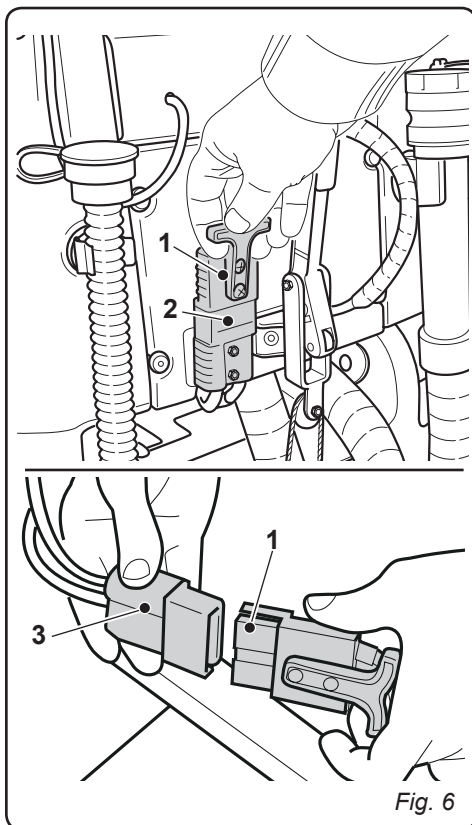

Fig. 6
- Leave the batteries to charge until the "Green" LED (7) lights up, then remove the power cable (5) and put it away.
- Reconnect the battery plug (1) to the system socket (2).
4.1.b - Charging the battery using an external battery charger (Fig. 6)
- Remove the battery plug (1) from the system socket (2).
- Connect the battery plug (1) to the external battery charger socket (3).
- Once battery charging is complete, reconnect the battery plug (1) to the system socket (2).